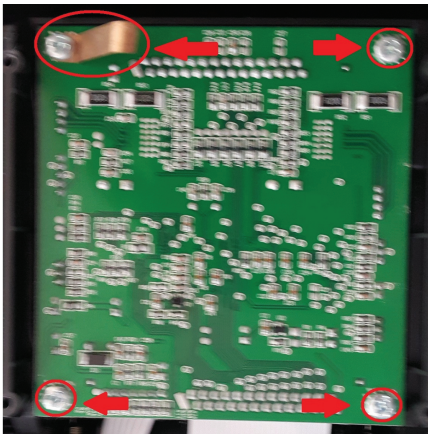

Fig 09
- 1) Unscrew four screw. Ref : Fig 09